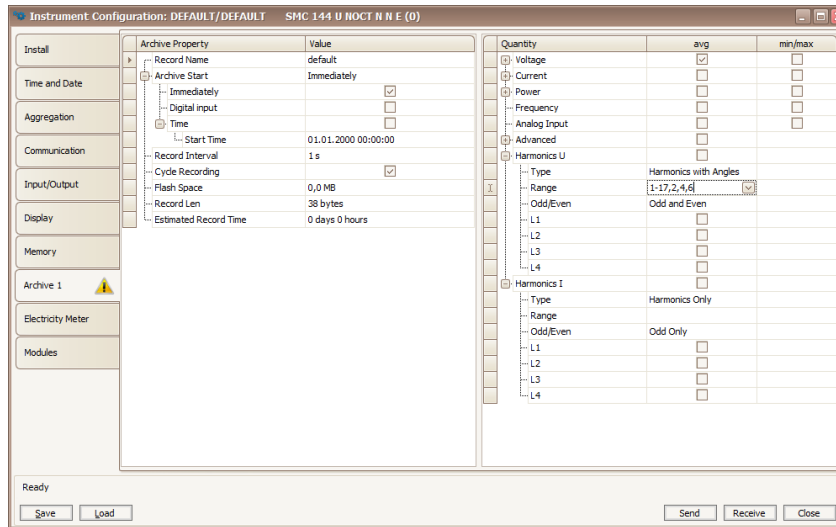

Figure 22: ENVIS.Daq - configuration of the recorded quantities for the main archive.
2.5.7 Main archive configuration (Archiv 1, fig. 22)